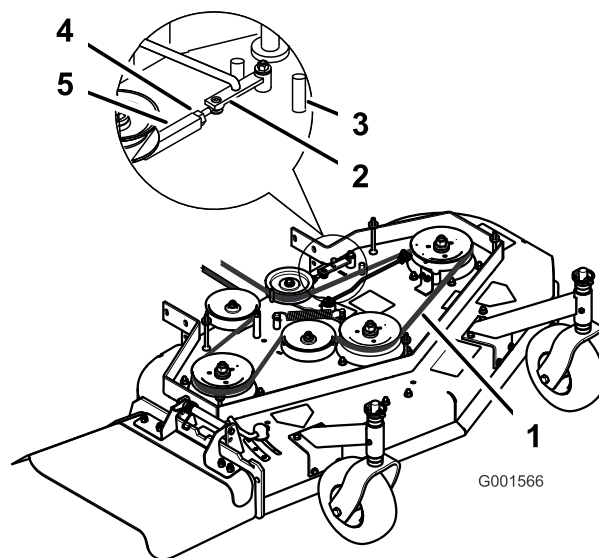

Figure 54
3. Loosen the locknut on the turnbuckle (Figure 54).
4. Rotate the turnbuckle toward the rear of the mower to increase the tension on the belt. Rotate the turnbuckle toward the front of the mower to decrease the tension on the belt (Figure 54).